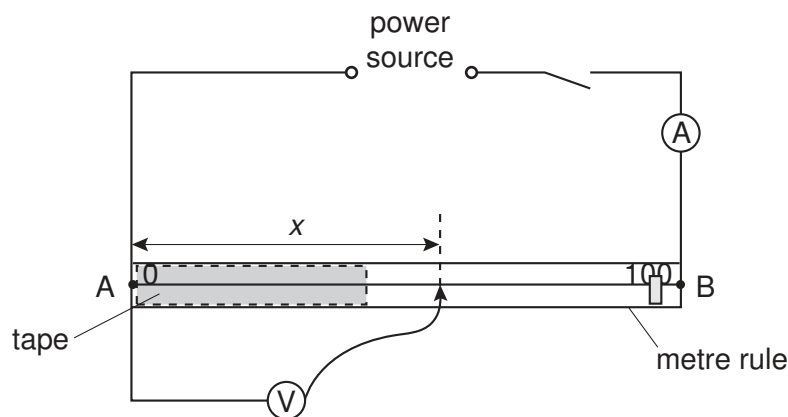

Fig. 3.1
- (v) Two suitable terminals attached to the constantan wire at the ends of the metre rule so that connections can be made to the circuit shown in Fig. 3.1.
- (viii) Sufficient connecting leads to set up the circuit shown in Fig. 3.1.
The circuit shown in Fig. 3.1 must be set up for the candidates.